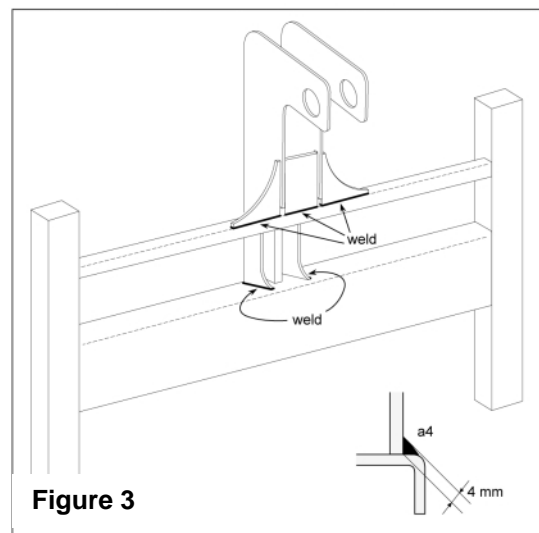

Figure 3
- Place the modified pedestal in position as indicated in Figure 3.
- Weld as indicated in Figure 3.